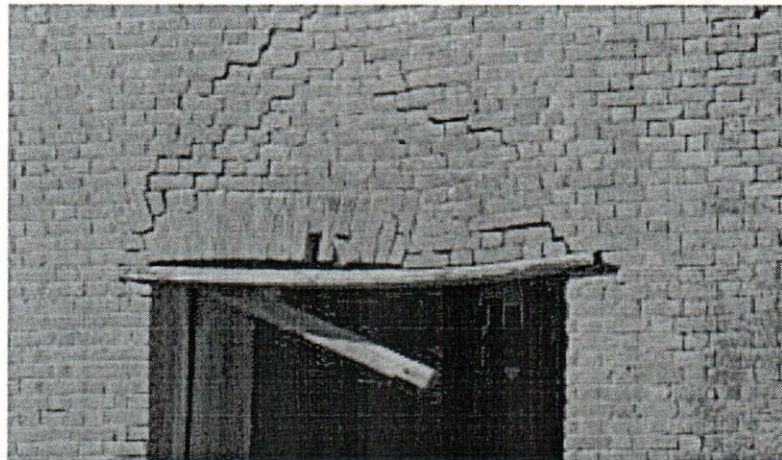

Figure Q1.C Cracking of walls
- h) Once the house has constructed, the client has noticed some cracks in walls as shown in the Figure Q1.C. How would you explain this type of cracking and what could have been done to prevent such cracking?